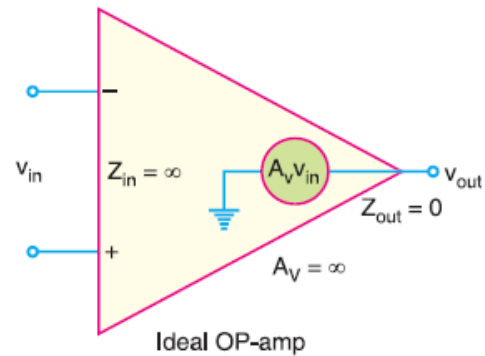

Fig. 4
**(ii) Ideal Op-Amp.** Fig. 4 shows the AC equivalent circuit of an ideal Op-Amp. The characteristics of an ideal Op-Amp are infinite voltage gain, infinite input impedance  $Z_{in}$  and zero output impedance  $Z_{out}$ .